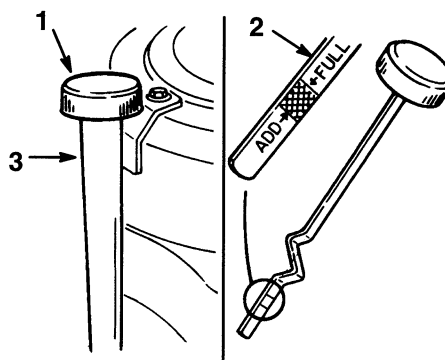

Figure 18
3. Clean around the oil dipstick (Fig. 18) so dirt cannot fall into the filler hole and damage the engine.
4. Unscrew the oil dipstick and wipe the metal end clean (Fig. 18).
5. Slide the oil dipstick fully into the filler tube do not thread onto tube (Fig. 18). Pull the dipstick out and look at the metal end. If oil level is low, slowly pour only enough oil into the filler tube to raise the level to the "FULL" mark.
7. Slowly pour approximately 80% of the specified amount of oil into the filler tube (Fig. 18). Now check the oil level; refer to Checking Oil Level, page 22. Slowly add additional oil to bring to "FULL" mark on dipstick.